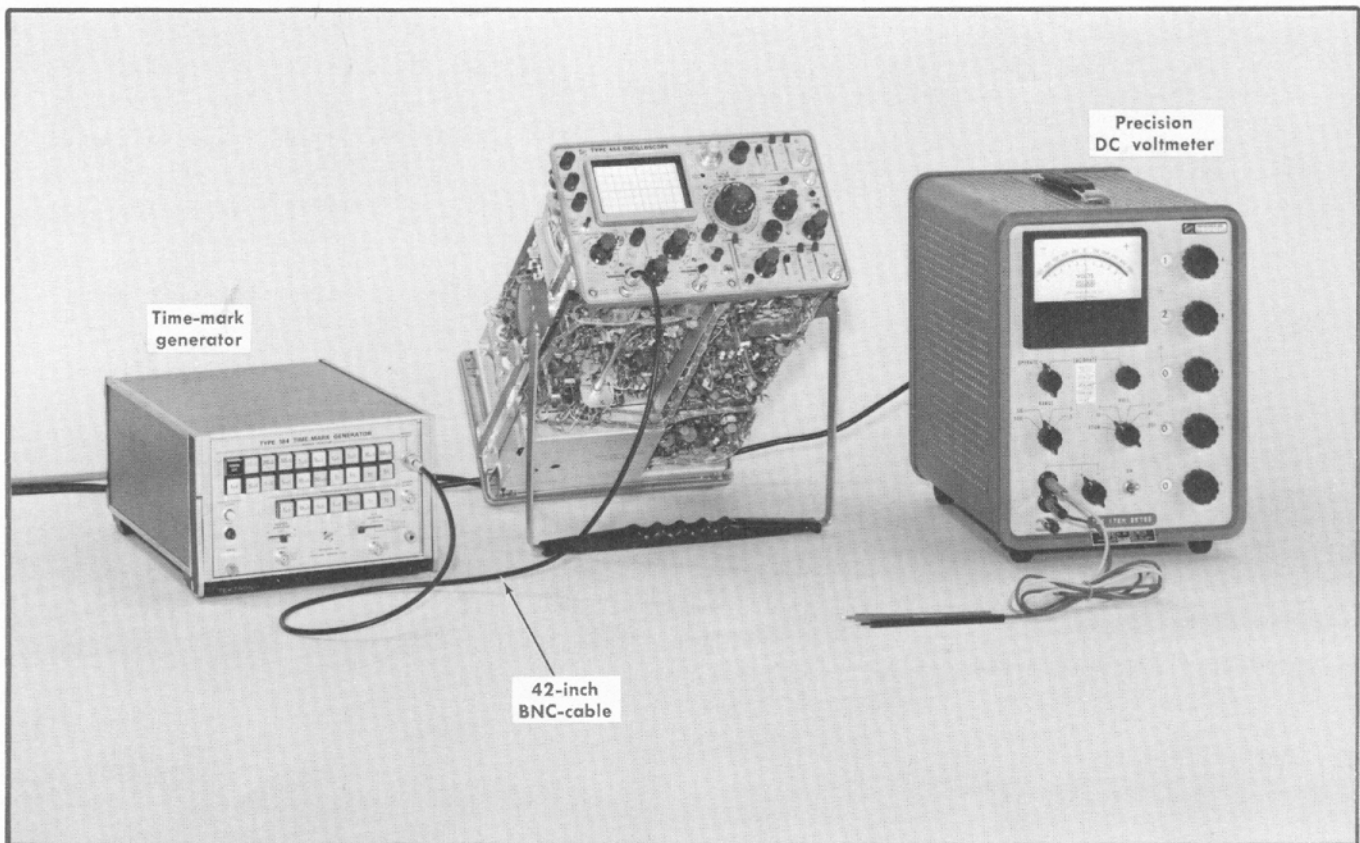

Fig. 6-11. Initial test equipment setup for steps 9 through 14.
- Test equipment setup is shown in Fig. 6-11.